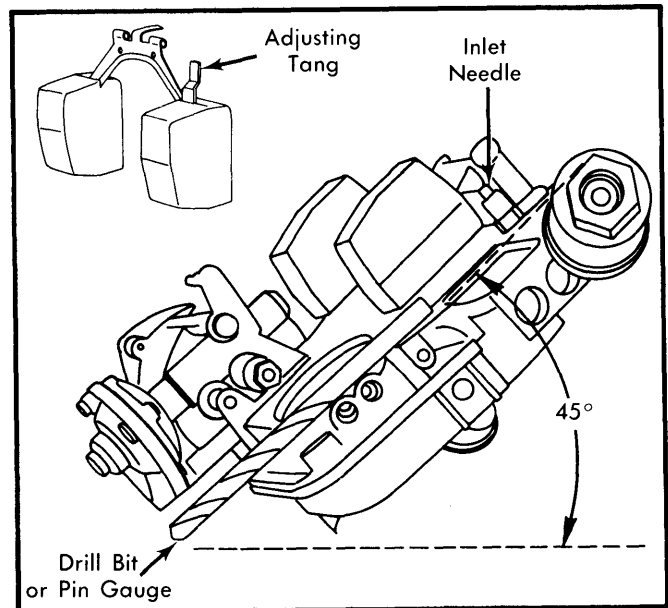

Fig. 1 Adjusting Float Level
1) Hold air horn upside down at 45° angle with air horn gasket in place. Float tang should rest lightly on inlet needle. Using suitable drill bit or pin gauge, measure clearance between float toe and air horn casting. See Fig. 1.